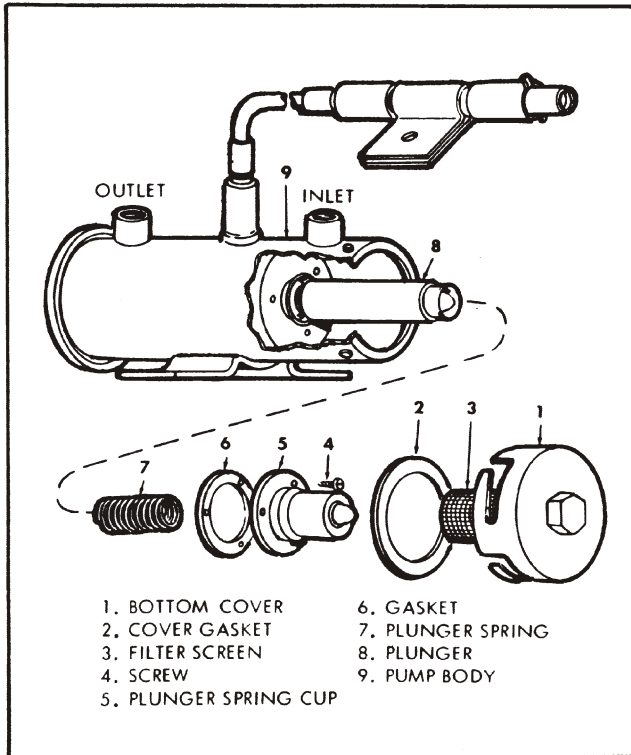

FIGURE 4-1 Exploded View of Electric Fuel Pump
e. Loosen the set screw in the blower wheel (16) and slide it off the motor shaft.
f. Remove the two hex nuts (18), lockwashers (19) and flat washers (20), and slide the back plate (17) off the motor through bolts. The spacer (22) will drop out.
4.3 Disassembly of Fuel Pump (See Figure 4-1)
4.5 Cleaning Fuel Pump Parts (See Figure 4-1)
- d. Rinse remaining parts in the solvent and dry with compressed air. Exercise care when drying the screen (3), to prevent damage.
4.8 Inspection of Fuel Pump Parts (See Figure 4-1)